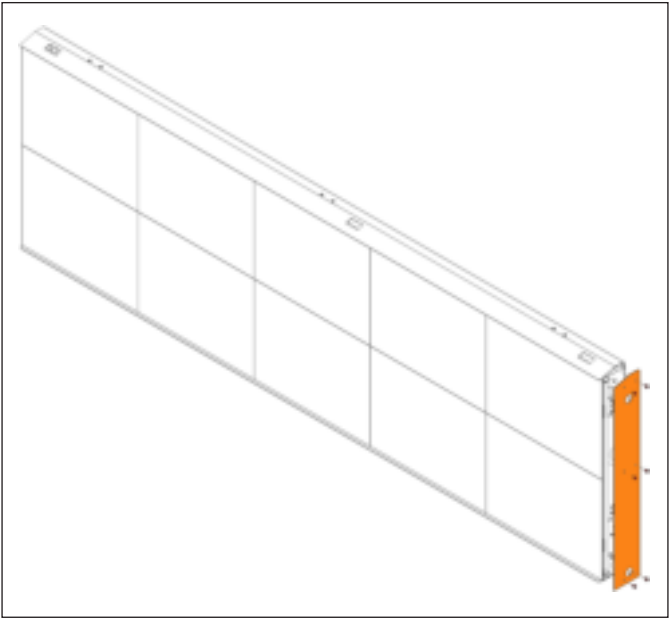

Figure 3: Install Border
3. Bring the border into position. The formed offset feature should be positioned to fit over the protruding alignment cone. Refer to **Figure 3**.